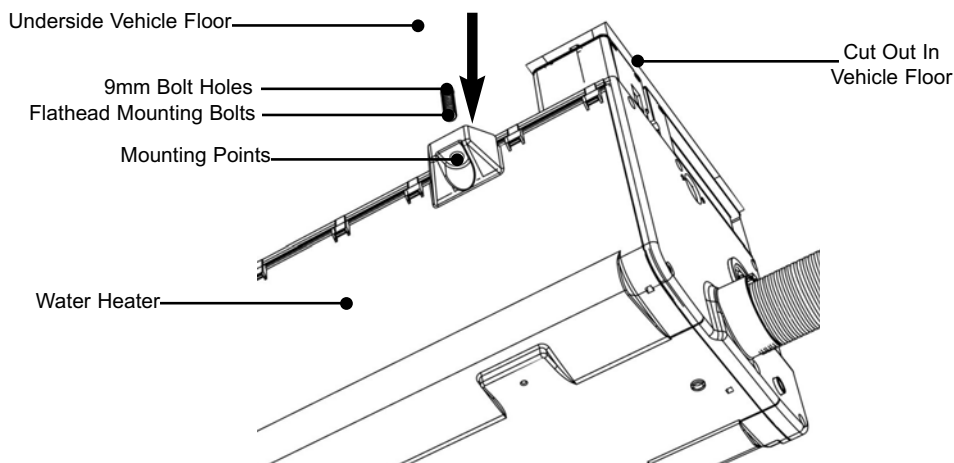

Fig. 11 Fit Water Heater
- ii. Place the Water Heater on the underside of the vehicle floor. The mounting bolts **must pass** through the mounting points, (as shown in Fig. 11).